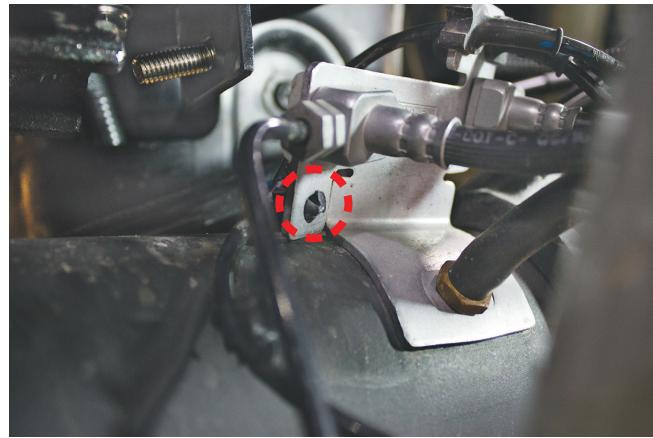

Fig. 18
1. To make room for driver's (left) side bottom air spring roll plate, it will be necessary to modify the ABS/brake line bracket that is on top of the axle. To do this, first remove the ABS line Christmas tree mount from the bottom left hand side of the ABS/brake line bracket (Fig. 18).